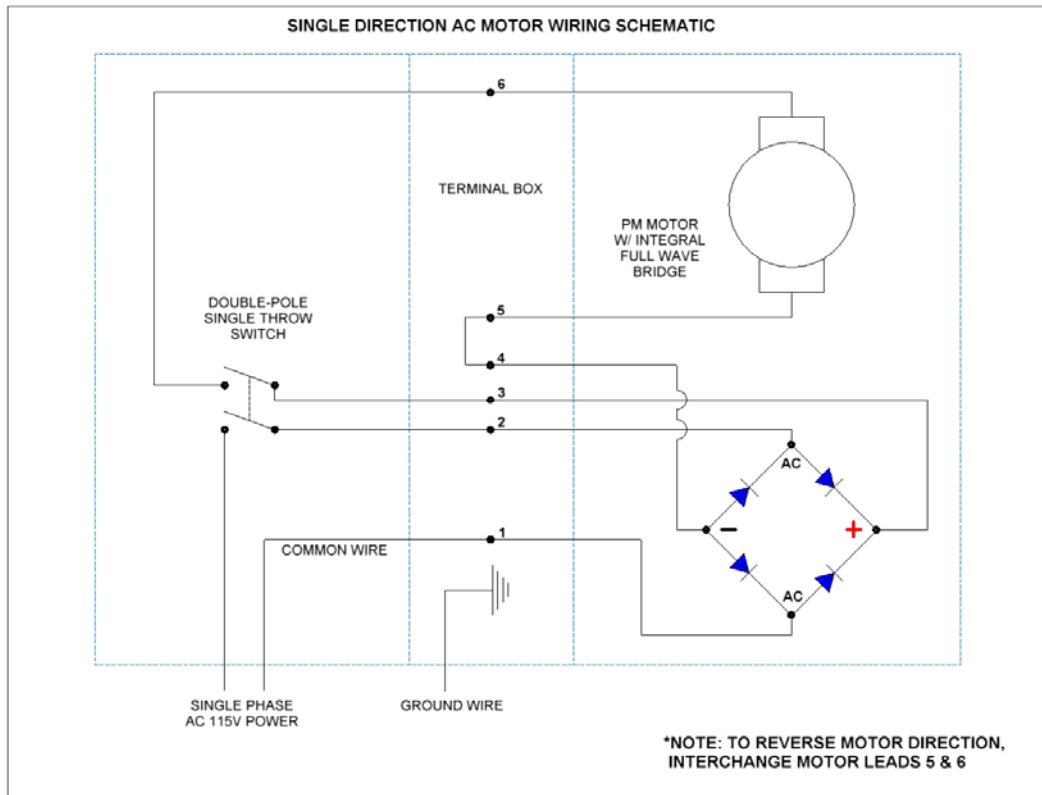

Figure 5: 115-VAC "EA" Motor Option, Single Direction
- 2.) Ensure power supply and motor voltage ratings are compatible. **Refer to figures 5, 6, and 7** for wiring diagrams.